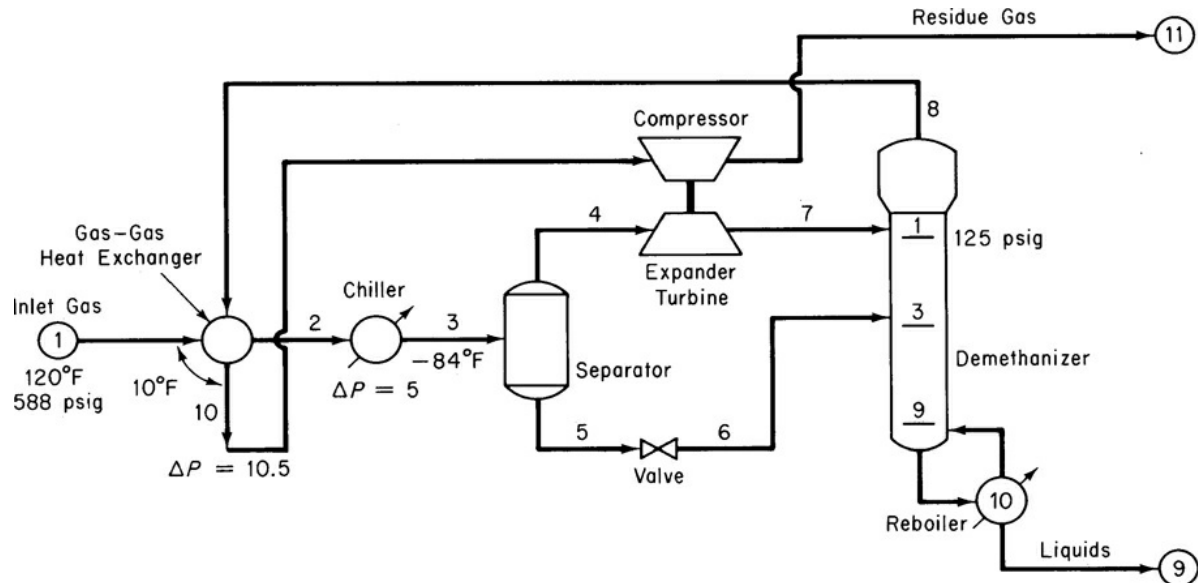

Figure P14.15
14.15 A demethanizer tower is used in a refinery to separate natural gas from a light hydrocarbon gas mixture stream (1) having the composition listed below. However, initial calculations show that there is considerable energy wastage in the process. A proposed improved system is outlined in Figure P14.15. Calculate the temperature (°F), pressure (psig), and composition (lb mol/hr) of all of the process streams in the proposed system.
Carry out the solution of the material and energy balances for the flowsheet in Figure P14.15, determine the component and total mole flows, and determine the enthalpy flows for each stream. Also find the heat duty of each heat exchanger.